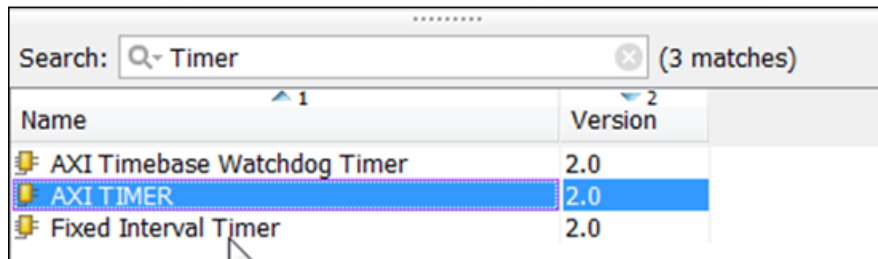

Figure 104: AXI Timer
1. From Add Peripherals, search for, and select the **AXI Timer** (Figure 104).